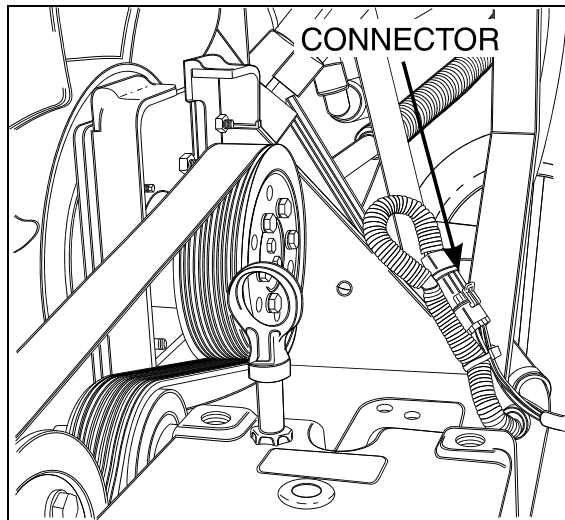

FIGURE 15: ELECTRIC FAN-CLUTCH CONNECTOR 010XX
10. Disconnect the electric fan-clutch connector, close to the water pump (Fig. 15).